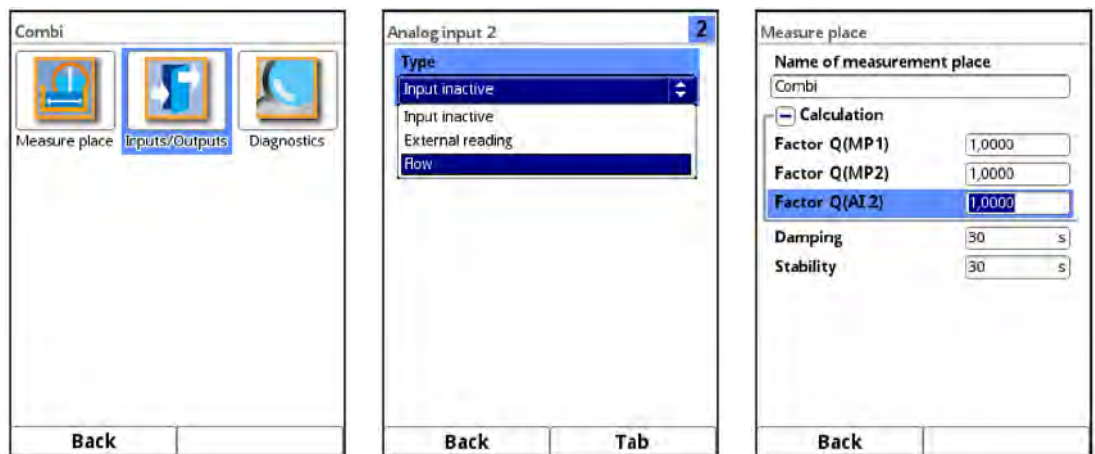

Fig. 34-10 Calculation incl. Analogue Input
2. Assign the type "Flow" to the corresponding analogue input under >Main Menu< / >Combi< / >Inputs/Outputs< / >Analogue Inputs< (Fig. 34-10 Fig. 2).
3. Enter factor Q(AEx) analogue to the factors Q(MPx) of the measurement places: >Main Menu< / >Combi< / >Measurement Place< / >Calculation< / "Factor Q(AE x)" (Fig. 34-10 Fig. 3).